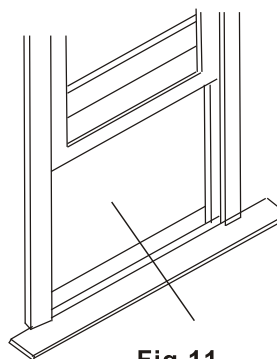

Fig.11
1. Open window and mark center of window stool as shown(Fig.11).